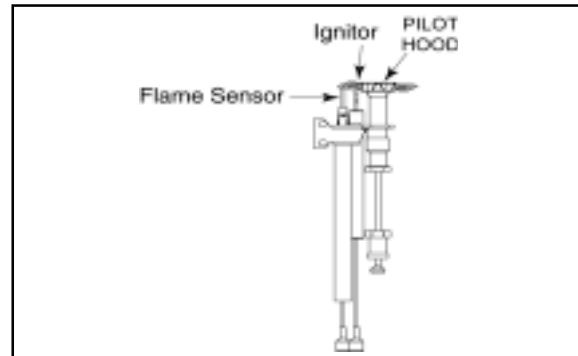

Figure 63 - Intermittent Pilot Ignition Assembly
- a. Check the flame of the burner periodically, making sure the flames are steady, not lifting or floating. The flame color should be blue with yellow tips. The sensor tip should be covered with flame from the pilot. See Figure 63.